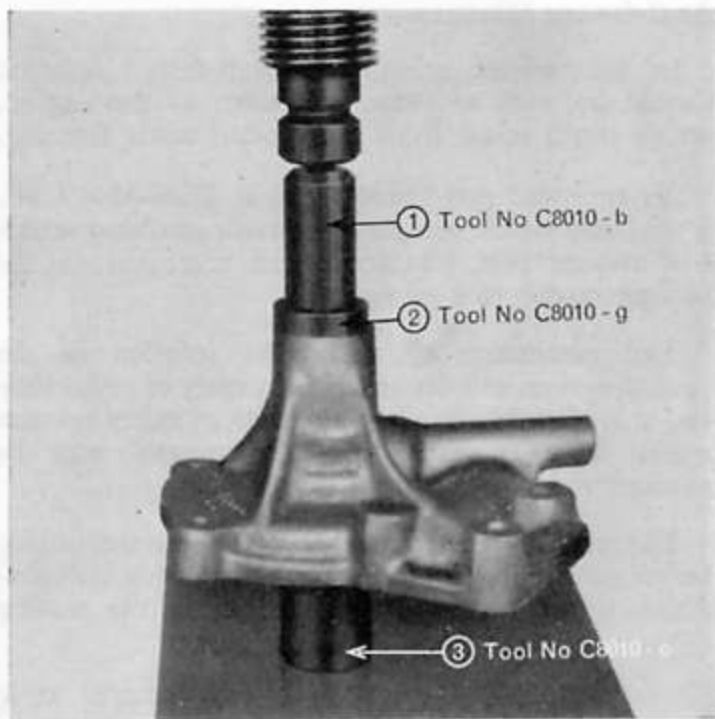

Fig. 4
3. Press the pump seal into the housing, using adaptor C.8010-c, with the carbon face away from the bearing (Fig. 4).